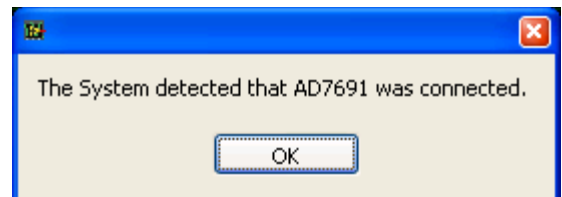

Figure 15. Software Detects Evaluation Board
3. When it finds the evaluation board, Figure 15 displays, and then hit **OK** to continue.